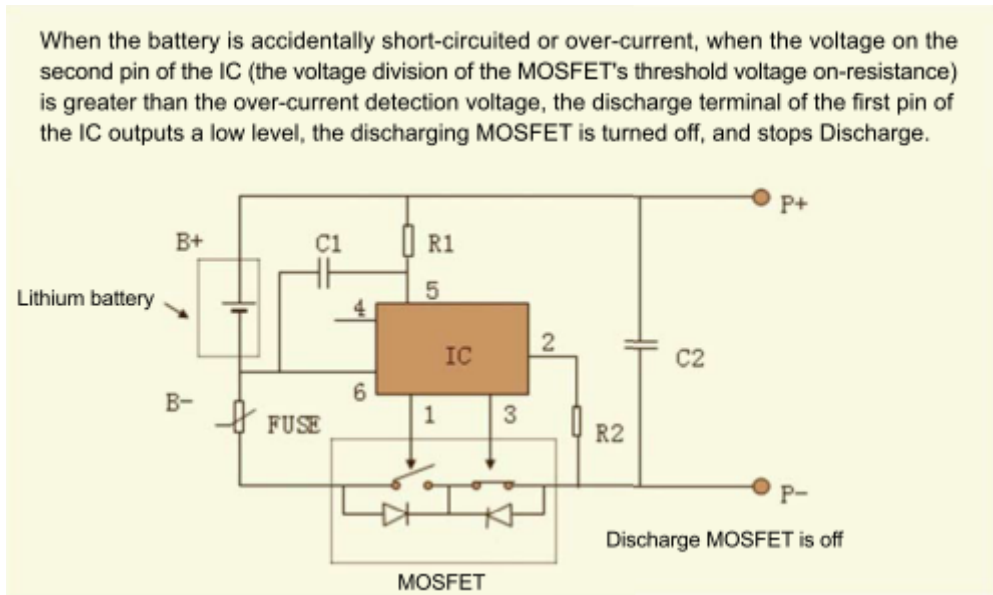

Figure 2.1 BMS internal architecture
- Short-circuit protection (SHORT) test method: Power supply (PS) & LOAD connection is shown in Figure 2.1, LOAD test procedure is shown in Figure 2.3.